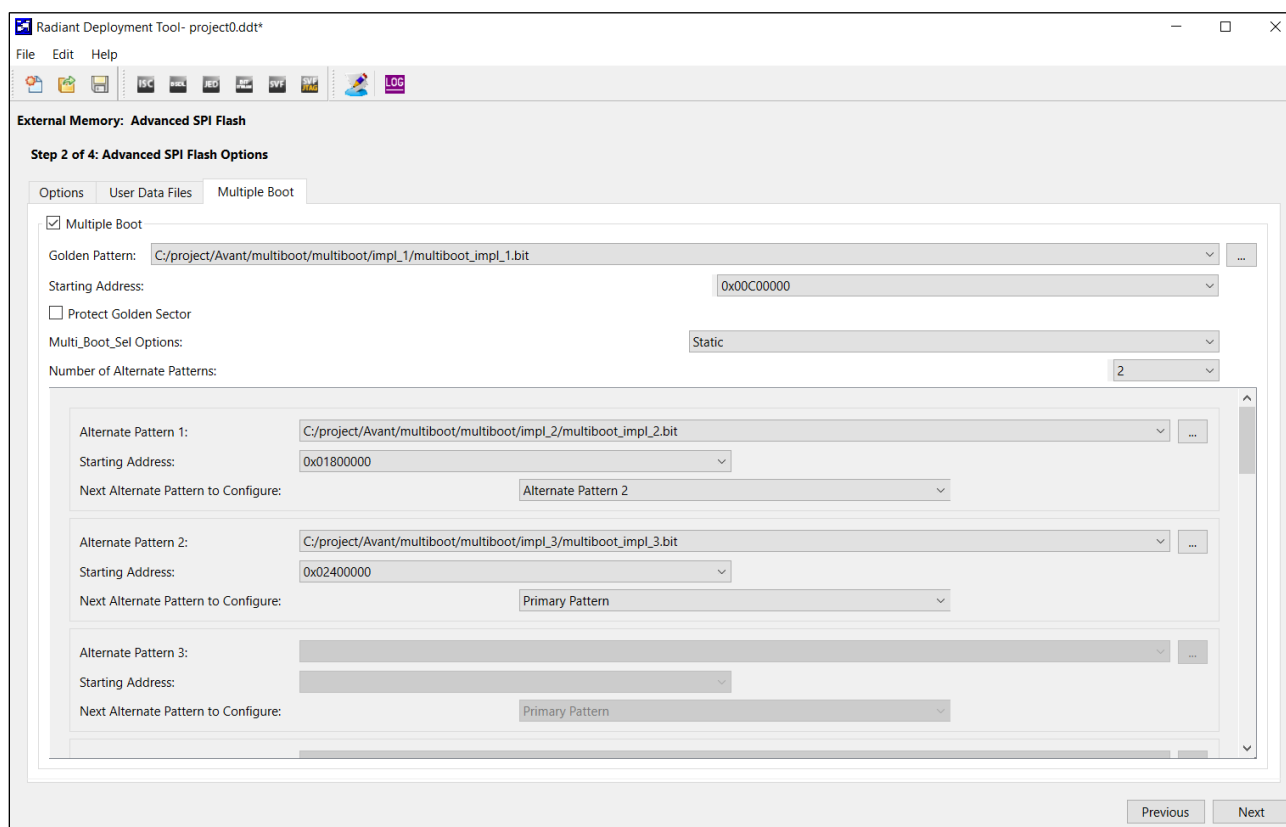
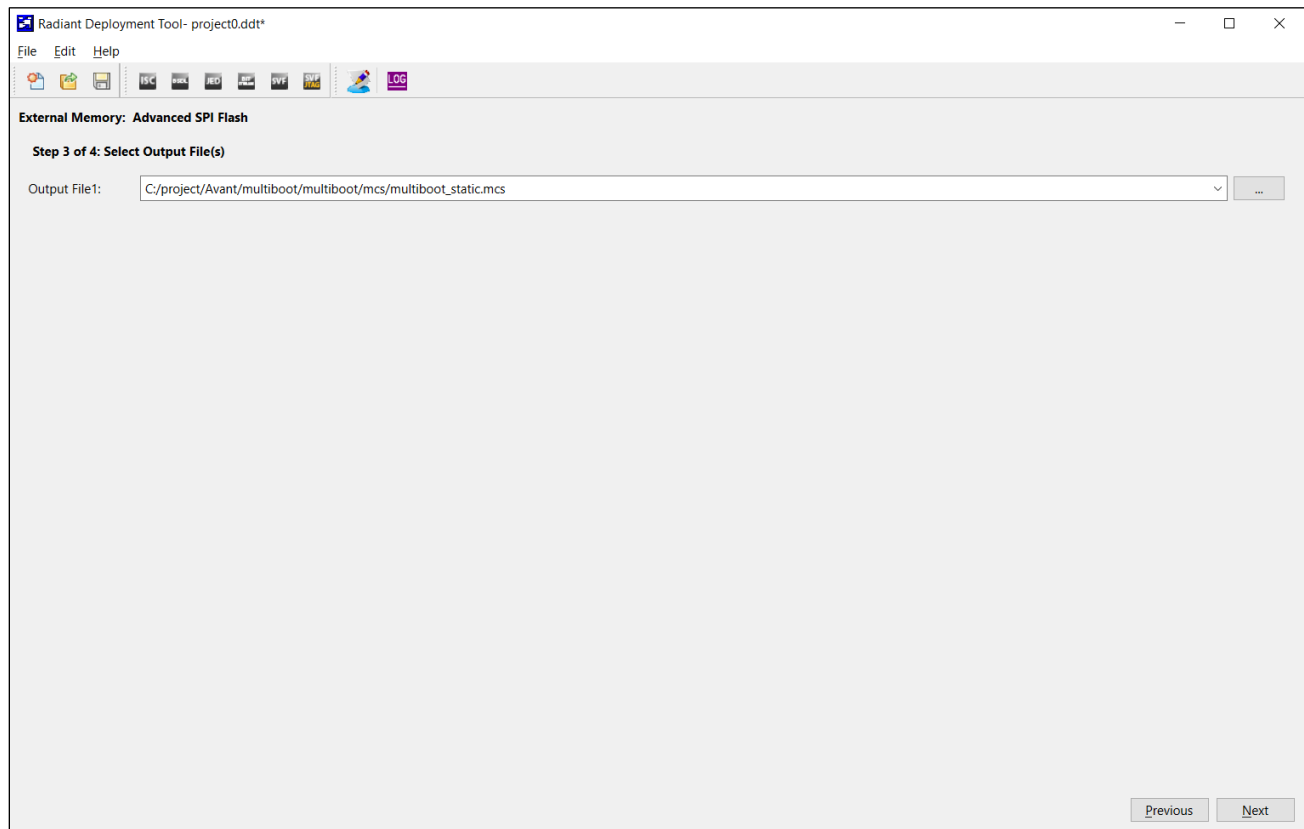
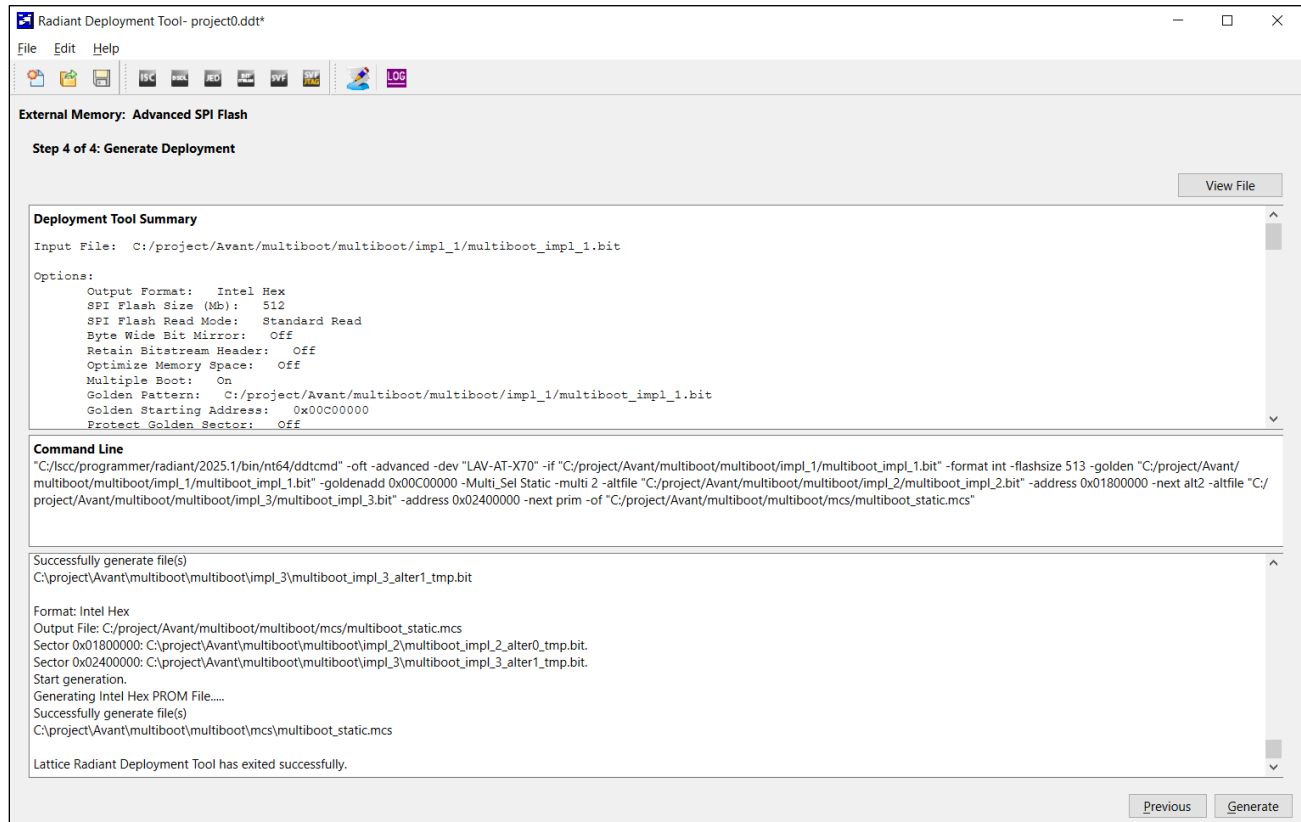

Figure 7.15. Advanced SPI Flash Options Window – Multiple Boot Tab
Figure 7.16. Select Output File(s) Window
Figure 7.17. Generate Deployment Window
- Edit the following options in the **Multiple Boot** tab (Figure 7.15):
Step 3 of 4: Select Output File(s) window (Figure 7.16)
Step 4 of 4: Generate Deployment window (Figure 7.17)
Creating an SPI Storage Device Hex File	- In the Using Radiant Deployment Tool to Create Multi-Boot Hex File section: - Updated Figure 7.13. Select Input File(s) Window, Figure 7.15. Advanced SPI Flash Options Window – Multiple Boot Tab, Figure 7.16. Select Output File(s) Window, and Figure 7.17. Generate Deployment Window. - Added Multi_Boot_Sel Options under Multiple Boot tab edits in step 2 of 4.
Creating an SPI Storage Device Hex File	- Updated term from PROM to SPI storage device. - Updated section title and description. - In the Using Radiant Deployment Tool to Create a Dual-Boot Hex File section: - Updated Figure 7.2. Select Input File(s) Window through Figure 7.5. Generate Deployment Window. - Added SFDP Enabled, Encryption, ECDSA Authentication, and RSA Authentication options and descriptions for the Dual Boot Options window. - In the Using Radiant Deployment Tool to Create Ping-Pong Boot Hex File section: - Updated Figure 7.7. Select Input File(s) Window through Figure 7.10. Generate Deployment Window. - Added Encryption, ECDSA Authentication, and RSA Authentication options and descriptions for the Ping-Pong Boot Options window. - In the Using Radiant Deployment Tool to Create Multi-Boot Hex File section: - Updated and added conditions to generate the bitstream files. - Rearranged some figures. - Added Figure 7.11. Configuring MCLK_FREQ, MULTI_BOOT_MODE, and MULTI_BOOT_SEL in Device Constraint Editor. - Updated Figure 7.13. Select Input File(s) Window through Figure 7.17. Generate Deployment Window. - Added ECDSA Authentication and RSA Authentication options and descriptions for the